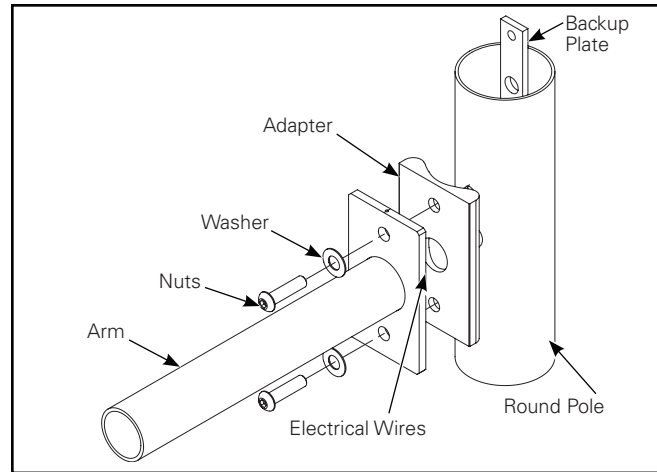

Figure 8.
Straight Arm (Figure 8)
2. For round poles only - Install round plate adapter with round side facing pole (Figure 8). Align holes top and bottom.